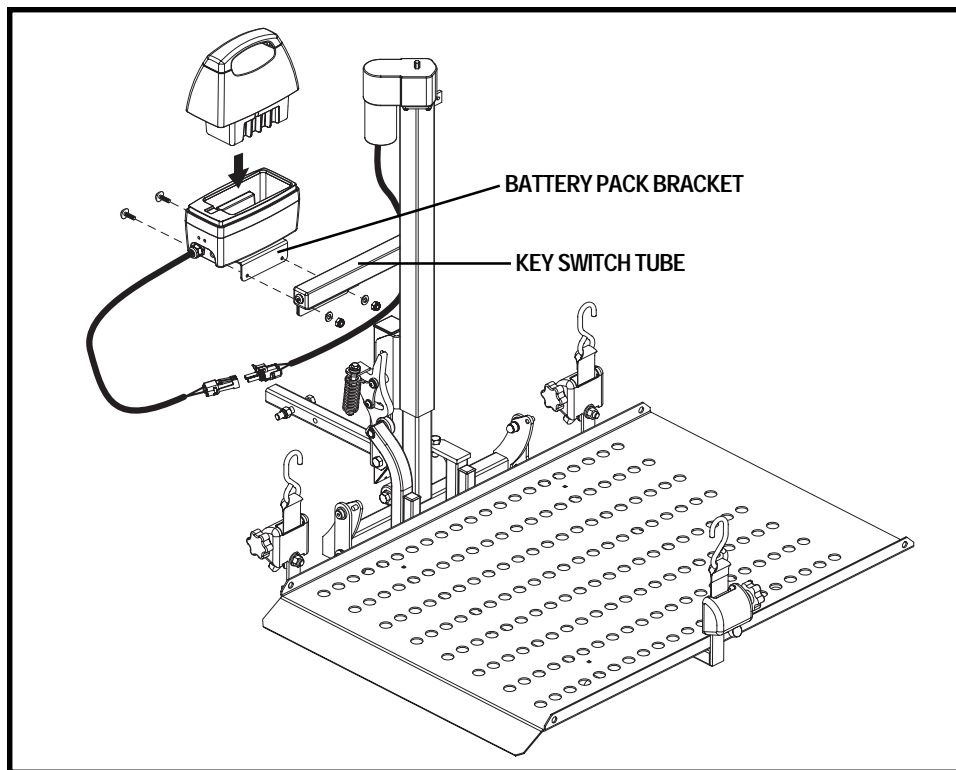

Figure 1. Battery Pack Installation to Exterior Lift
2. Align the mounting holes in the battery pack base bracket with those in the accessory bracket located under the key switch tube. **See figure 1.**
3. Secure the battery pack base to the accessory bracket with the supplied hardware. **See figure 1.**
5. Plug the battery cord on the bottom of the battery pack into the mating connector running from the motor. **See figure 1.**